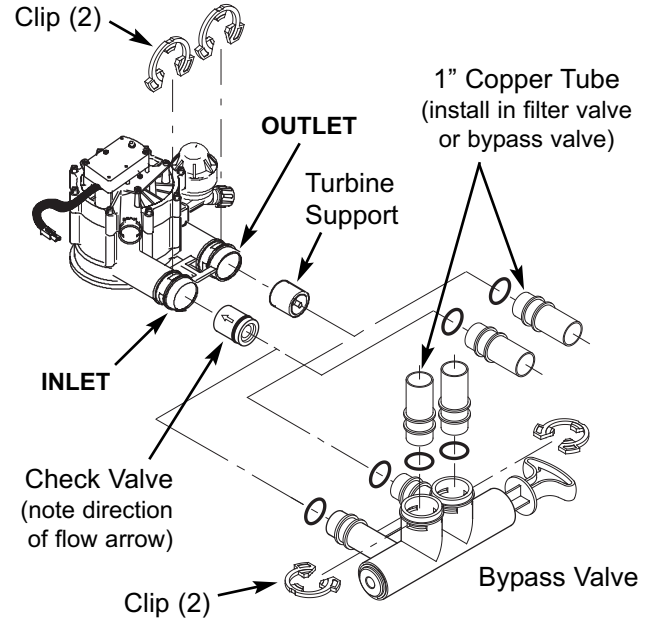

FIG. 8
- c. Be sure the check valve is in place in the valve inlet, with the flow arrow pointed inward, as shown in Figure 8.